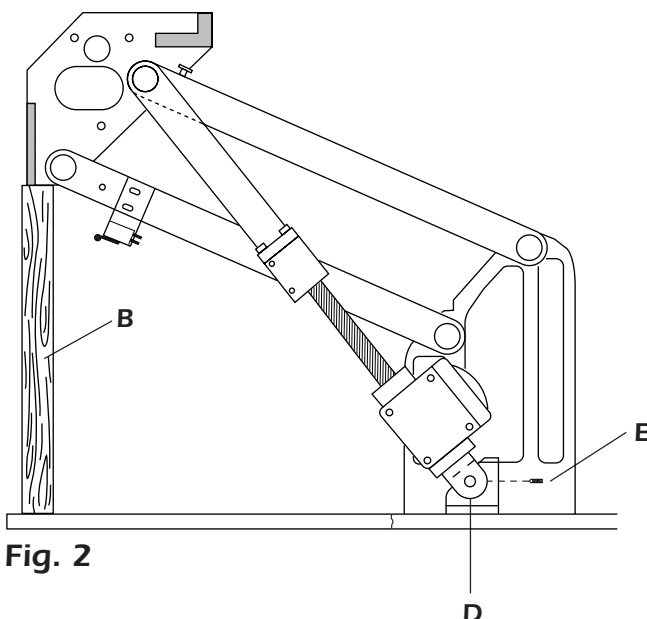

Fig. 2
- 7) To prevent the chair from falling while the motor is being replaced, insert a special spacer "**B**" under the seat box as shown in figure 2 and bring the chair slightly down to block the spacer in place.